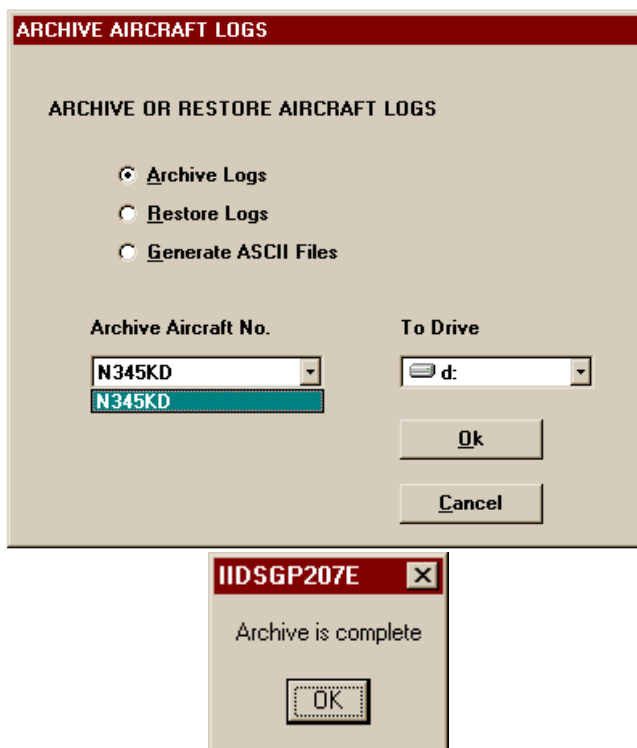

Figure 50. Archive /Restore Aircraft Logs Screen
3. In the Archive Or Restore Aircraft Logs Screen (refer to Figure 50) select to "**Archive**".
3. In the Archive Or Restore Aircraft Logs Screen select "**Restore**" (refer to Figure 50).